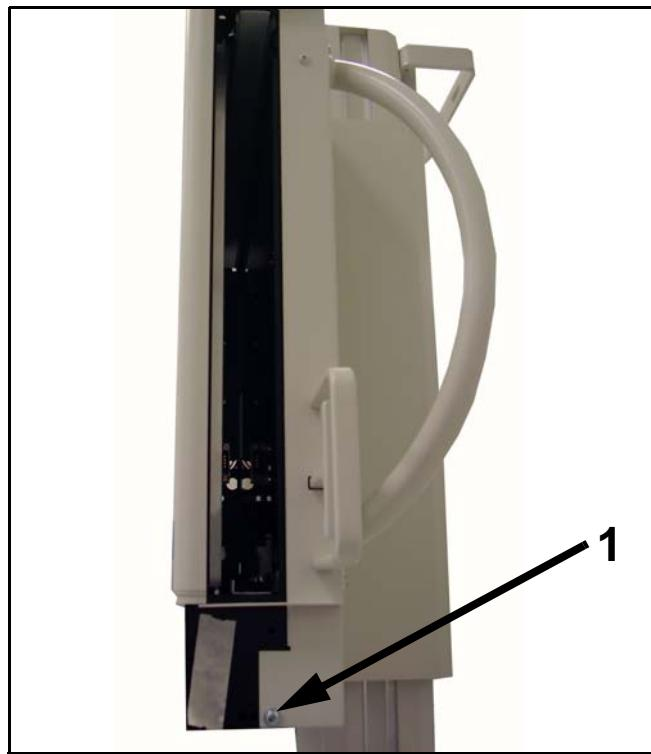

Figure 5-12. Bucky Right Side Screw
- 18** Unscrew bucky right side screw (1 in Figure 5-12).